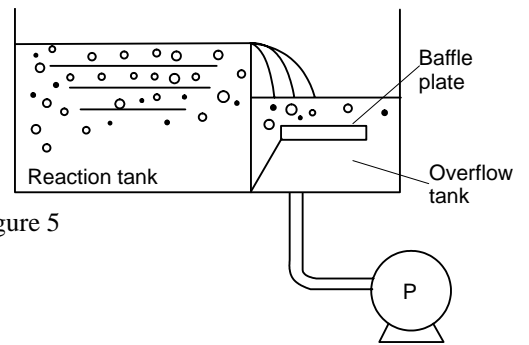

Figure 5
- In case of flooded suction system (Figure 5)